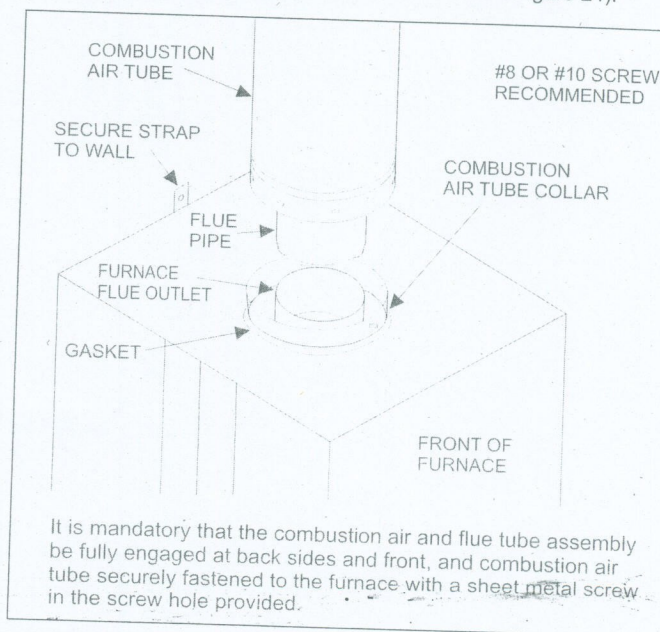

FIGURE 24: Connecting Roof Jack to Furnace
2. Pull the Roof Jack's telescoping section down onto furnace. Engage Roof Jack onto Vent Connector and Air-Intake Connector and compress gasket. See Figure 24. Refer to Interior Roof Jack Extension installation instructions, if applicable.
2. Pull the telescoping flue tube and combustion air tube assembly down from the roof jack. Slide the flue tube/combustion air tube assembly down firmly over the furnace flue outlet and combustion air collar. Insure that the back, side and front of combustion air tube collar is fully engaged and is in contact with gasket. Fasten the combustion air tube to the furnace combustion air collar using a 1/2 inch sheet metal screw. (Screw hole provided in combustion air tube and furnace combustion air collar. See Figure 24).